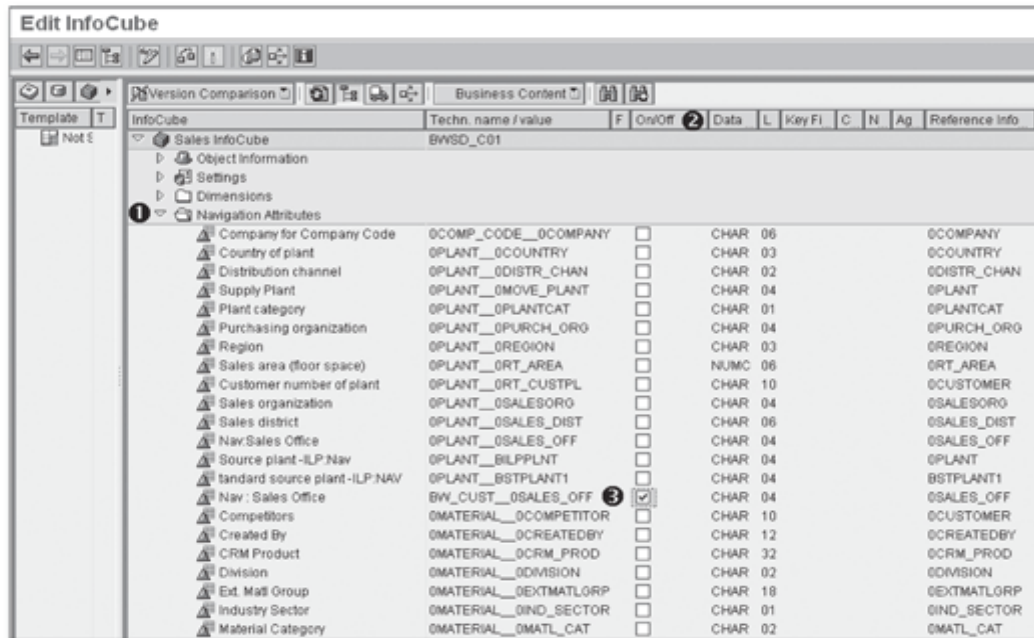

Figure 5.21 Selecting Navigation Attributes
Some of the characteristics assigned to different dimensions of an InfoCube can be master data characteristics, which means they can have their own attributes. Some of these attributes may be configured as navigation attributes. All navigation attributes from all master data characteristics included in the InfoCube are available under the Navigation Attributes section of the InfoCube definition (refer to ❶ of Figure 5.21).